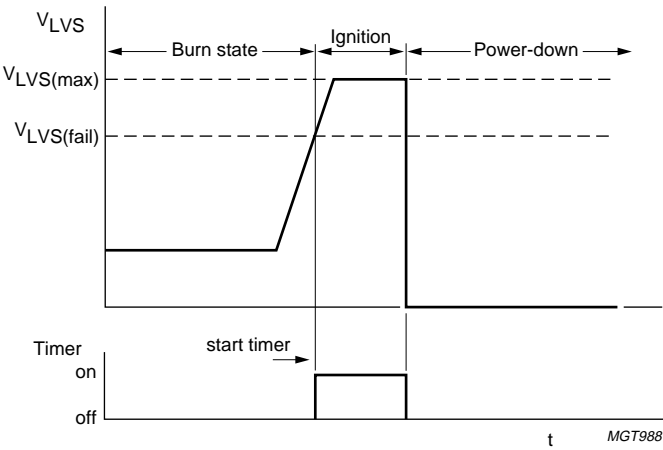

Fig.7 Failure mode during burn.
**DURING BURN STATE (see Fig.7)**